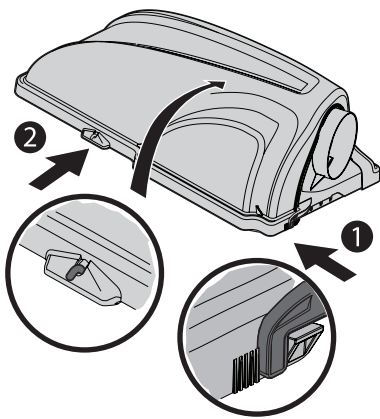

Figure 29
1. Open hood by pushing in on the rear, right-side tab with your right hand (1), and lifting the cover with your left hand in the center rear of the bagger cover (2) as shown in Figure 29.